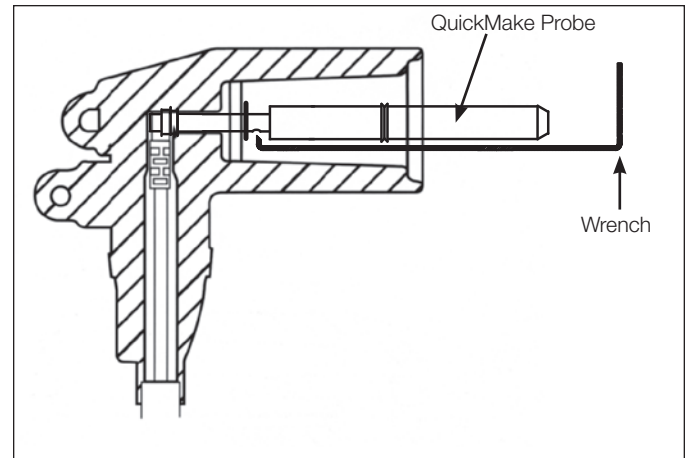

Figure 2.
- Thread the “new” probe into the elbow and tighten it until the wrench bends 90°. See Figure 2.